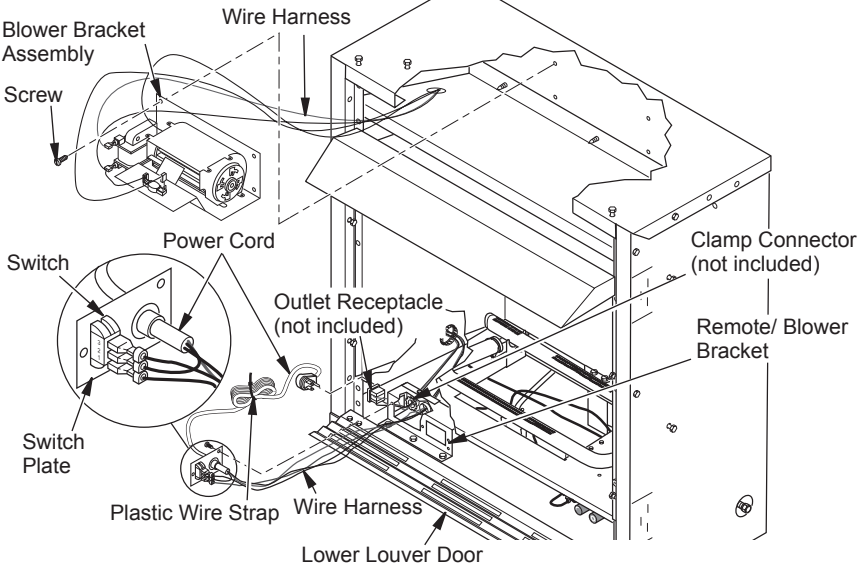

Figure 17 - Installing Blower Bracket Assembly
1. Install snap bushing from blower kit into one hole on rear of remote/blower bracket (see Figure 17). The other hole is for a strain relief clamp (not supplied) to secure incoming electrical supply.
4. Plug power cord to outlet receptacle (not provided) as shown in Figure 17. Wind the extra power cord and tie with plastic wire strap (see Figure 17). Set power cord bundle between the remote/blower bracket and outer casing, away from the burner.